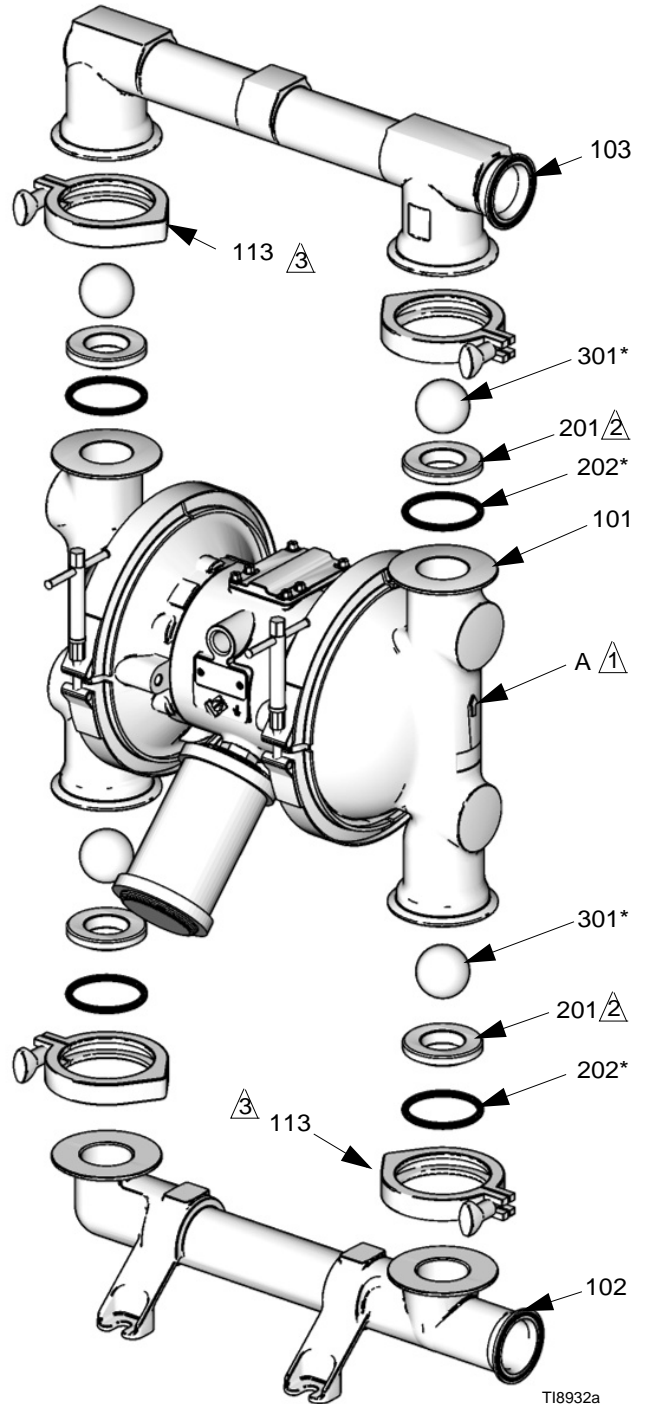

FIG. 9
- To ensure proper seating of the balls (301), always inspect the seats (201) when replacing the balls. Replace seats as necessary if seating surface shows evidence of wear. Also, replace the o-rings (202) as necessary. PTFE o-rings should be replaced every time manifolds are removed.
3. Remove the clamps (106) holding the outlet manifold (103) to the fluid covers (101). See FIG. 9.
4. Remove the o-rings (202), seats (201), and balls (301) from the manifold (103).
5. Turn the pump over and remove the inlet manifold (102). Remove the o-rings (202), seats (201), and balls (301) from the fluid covers (101).
2. Reassemble in the reverse order, following all notes in FIG. 9. Be sure the ball checks and manifolds are assembled **exactly** as shown. The arrows (A) on the fluid covers (101) **must** point toward the outlet manifold (103).
- ⚠ Arrow (A) must point toward outlet manifold (103)
- ⚠ Radiused seating surface must face the ball (301). Large chamfer on O.D. must face o-ring.